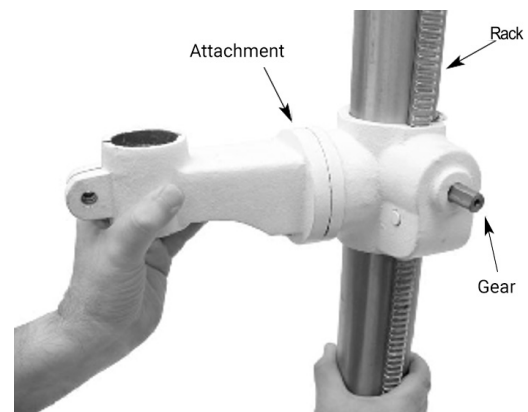

Figure 6
- Slide with the bracket device with the rack over the column. Place the bottom end of the rack. See Figure 6.